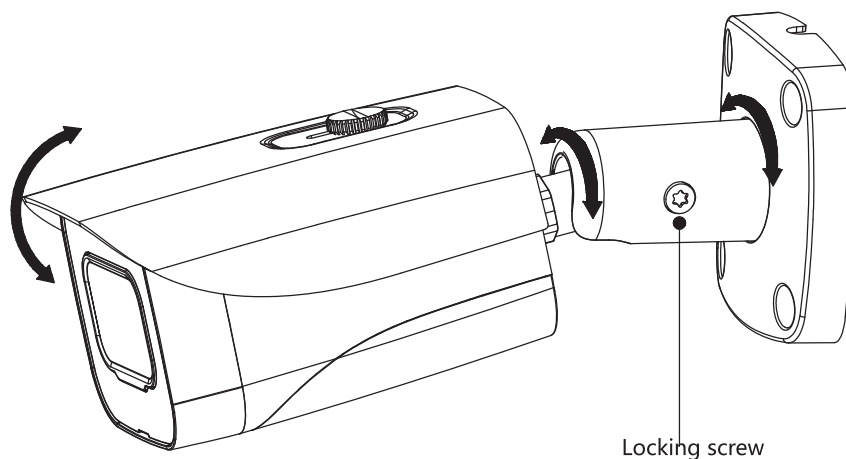

Figure 3-3
Step 1 Find the mounting template sticker from the accessory pack and stick it to the mounting surface ⑤. Drill screw holes (and the cable outlet hole if it needs to go through the mounting surface) on the mounting surface as indicated on the mounting template.
- For masonry mounting surface, insert expansion bolts④ from the accessory pack in the screw holes.
Step 3 Adjust the location of the bracket③ according to cable outlet requirement (top out or side out), then pull the cable out through mounting surface or the side wire tray. Align the screw holes on the bracket③ to those on the mounting surface, then put in and fasten the supplied self-tapping screws② to attach the device① to the mounting surface.
Step 5 Loosen the locking screw first, aim the lens to the ideal angle and adjust the focus until you get clear image (see Figure 3-3 or Figure 3-4), and then fasten the locking screw.